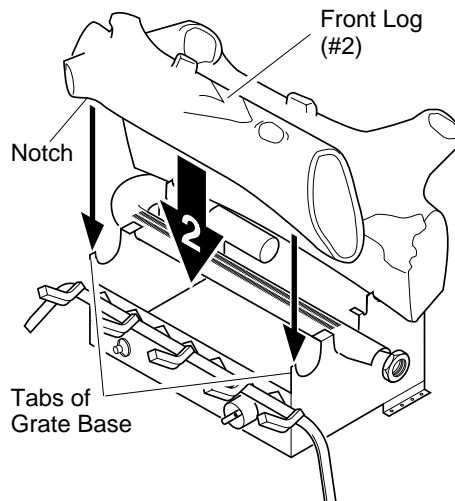

Figure 17 - Installing Front Log
2. Locate the notches on the back of the front log (#2). Slide these notches over the tabs of the grate base (see Figure 17).